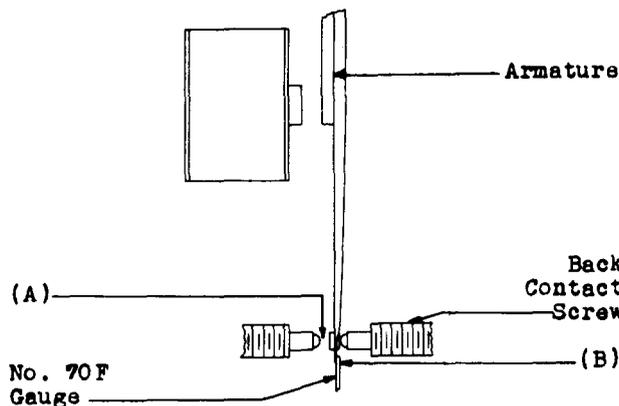

Fig. 7 - Contact Travel
2.06 Contact Travel: Fig. 7(A) - The contact travel, measured between the
2.08 Back Contact Pressure: Fig. 7(B) - The pressure between the armature and the back contact, measured with no current through the relay, shall be